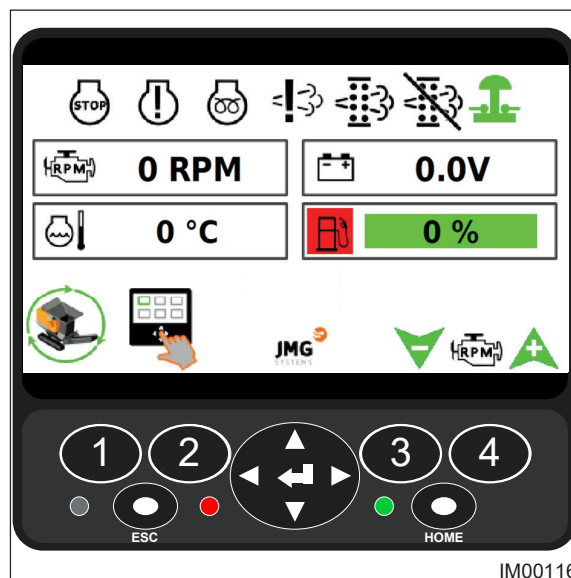

Fig: 7.17 - Home Screen
8. On the home screen, press the Menu Select button (Item 2, Fig: 7.17).